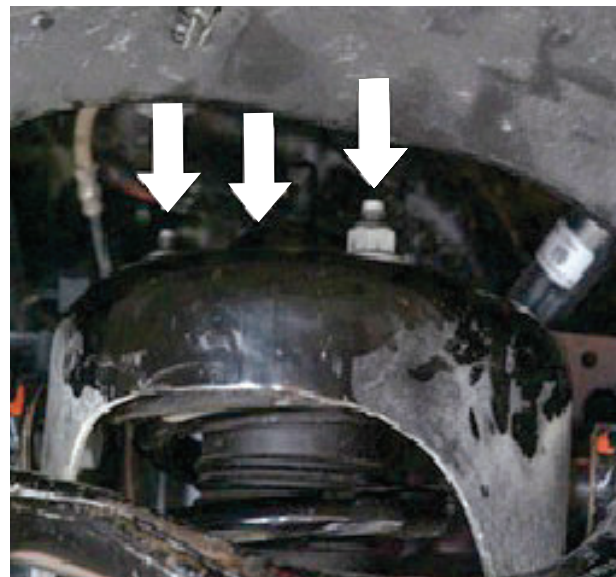

Fig. 5: Remove upper top mount nuts. **DO NOT** remove the center nut.
6. Remove the upper top mount nuts (Fig 5). Front shock can now be removed. **DO NOT remove the center nut that holds the shock assembly together. Removal of the center nut will release the spring from the shock assembly and may result in SERIOUS INJURY or DEATH!**